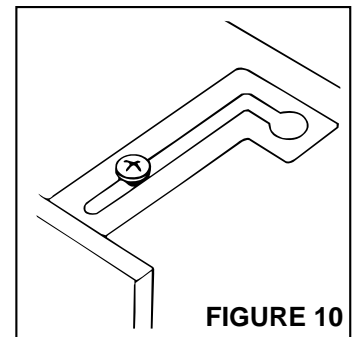

FIGURE 10
4. Refer to Figure 10. Slide master panel to the right, then forward until panel is flush with the wall.